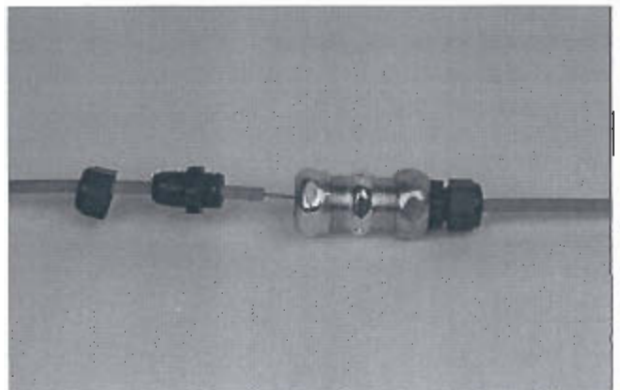

FIGURE 99
9. Tighten compression union nut onto union body, securing flexible conduit insert in place. See Figure 99.